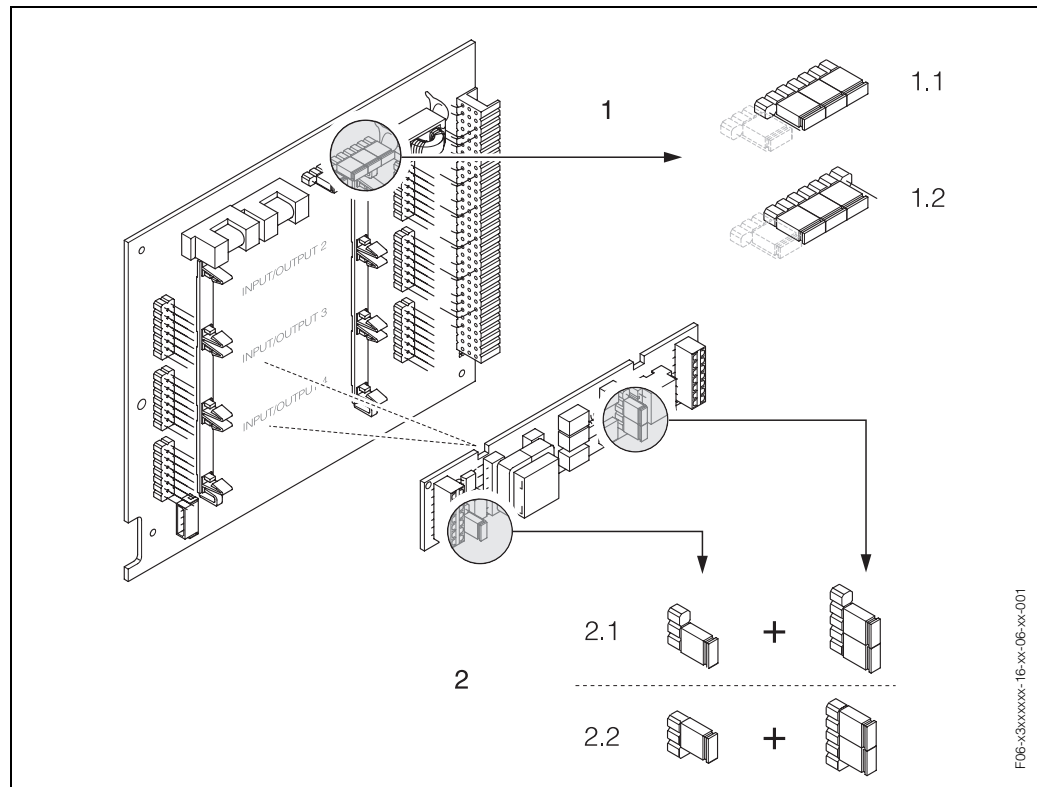

Fig. 33: Configuring current outputs with the aid of jumpers (I/O board)
3. Set the jumpers in accordance with Fig. 33.
- Risk of destroying the measuring device. Set the jumpers exactly as shown in Fig. 33. Incorrectly set jumpers can cause overcurrents that would destroy either the measuring device or external devices connected to it.